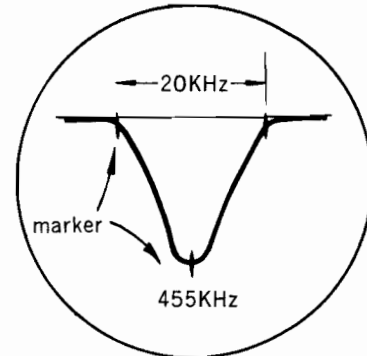

Fig. 14
- a) Connect the Genescope output lead to test points (16) and (18) of the IF printed circuit board (AA-506).
- b) Connect the Genescope input lead to test points (11) and (7).
- e) Adjust the Genescope output to approximately 50 dB ( $310 \mu V$ ). Then adjust the upper and lower cores of T-652, T-653 and T-654 so that the wave forms shown in Fig. 14 are obtained. Adjust them so that the center marker of the three markers divide the wave forms into two symmetrical parts, and the highest peak value is obtained.